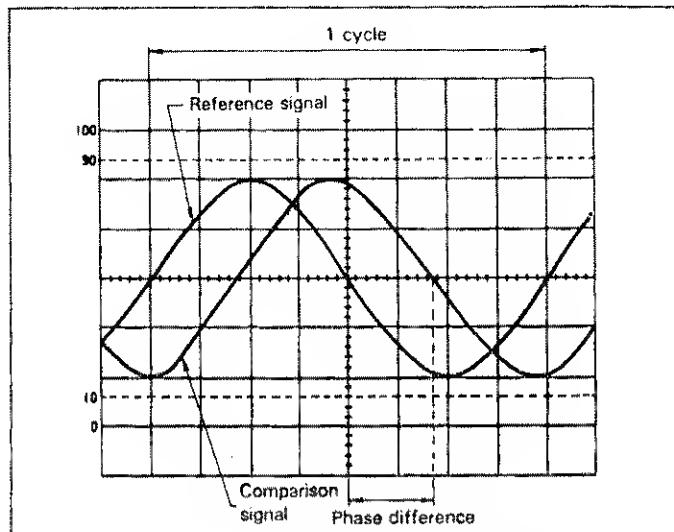

Fig. 15. Phase Difference Measurement.
Method No. 1 (Refer to Fig. 15)
1. Apply the two signals to the **CH 1 (X)** and **CH 2 (Y)** input jacks.
3. Use the **↑** position controls to position the waveforms in the vertical center of the screen. Use the sweep **TIME/DIV** and **Var** controls to adjust the display so one cycle of the reference signal occupies 8 divisions horizontally (see Fig. 15). The **Trig Level** and **↔** position controls are also useful in achieving this display. The display should be as shown in Fig. 15, where one division now represents 45° in phase.
For the example shown in Fig. 15, the horizontal distance is 1.7 divisions. Thus, the phase difference is calculated as follows: